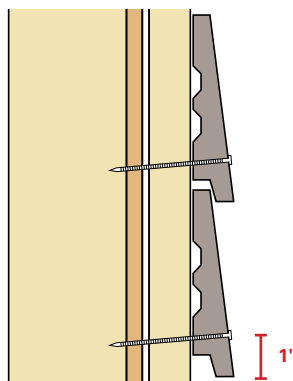

Fig. 14
- Nail at 1" from the base (long edge) of the board. (*See Figure 14*)